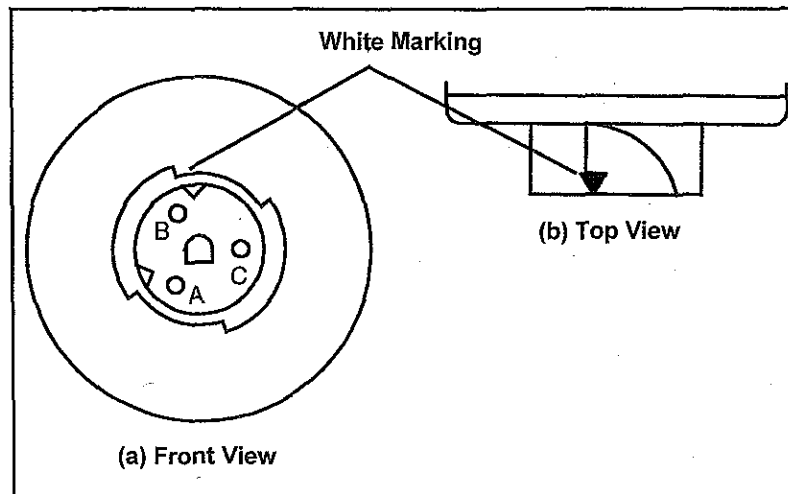

Figure 3-3: Syringe Warmer Receptacle
10. Figure 3-3(a) is a front view of the Injector receptacle. Pin A is Ground/Earth. Perform a continuity test between pin A and a good Ground/Earth on the Injector. If the test fails, replace the Syringe Warmer Harness and retest the unit; otherwise, proceed to the next step.
14. Disconnect the Syringe Warmer cable. Measure +12VDC across pin B (+) and pin C (-) in the Injector receptacle shown in Figure 3-3. If the test passes, power down the Injector and replace the Syringe Warmer (original replacement is defective); otherwise, proceed to the next step.